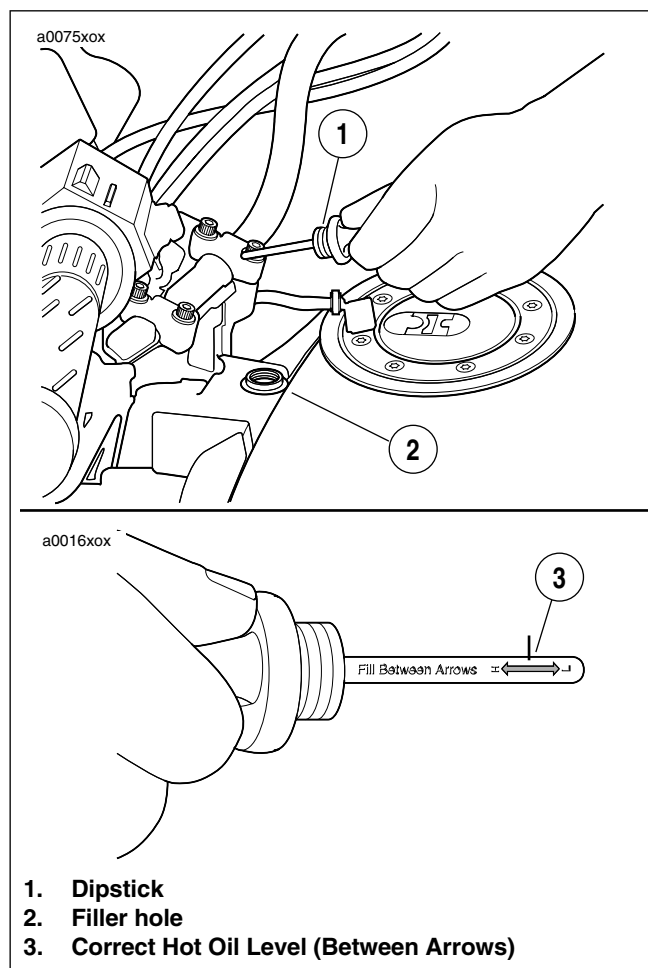

Figure 1-2. Dipstick Location/Engine Oil Level
2. See Figure 1-2. Unscrew dipstick from frame filler hole.
4. See Figure 1-2. Remove dipstick and note oil level.
12. See Figure 1-2. Remove dipstick and refill with approximately 1.5 qts (1,419.5 ml) recommended oil at filler hole. See Table 1-1.